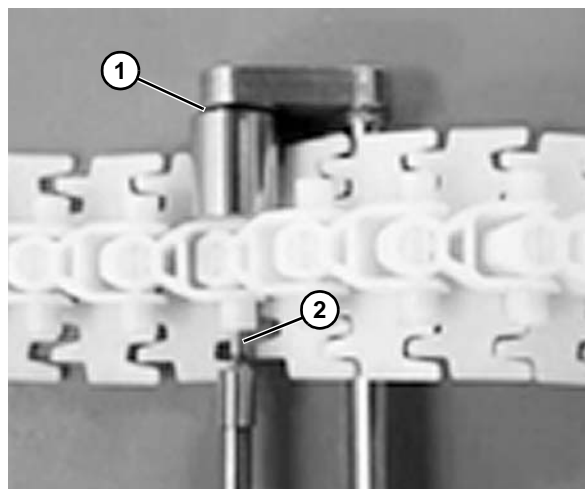

Figure 47
3. Line the FlexMove chain tool (**Figure 47, item 1**) up with the pin (**Figure 47, item 2**). Slowly depress the trigger until the pin seats. A slight detent will be felt when pin is seated.